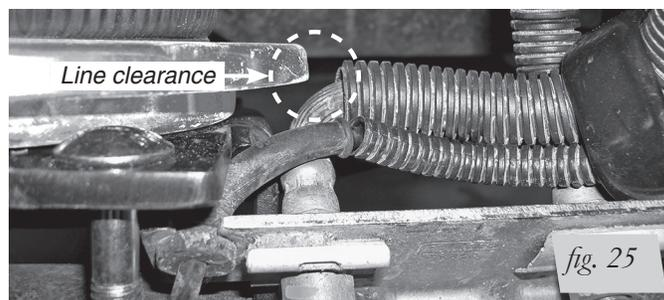

fig. 25
1. Once the left (driver) side assembly has been completed, review the RSC Brake/ABS line clearance and adjust if necessary (Fig. 25).